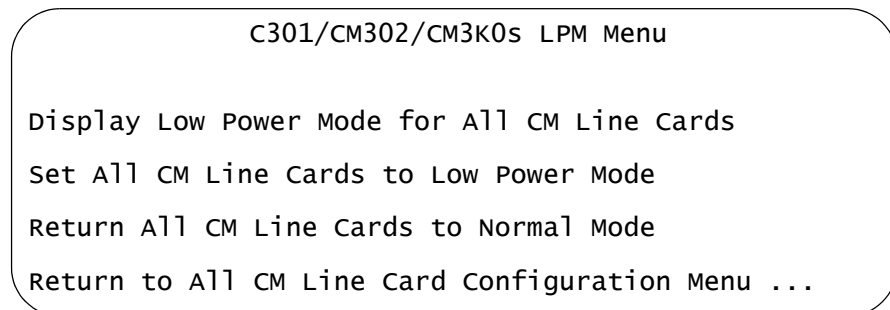

Figure 77. CM301/CM302/CM3K0S LPM Menu
3. Select **CM301/CM302/CM3K0S LPM** to display the menu in Figure 77.